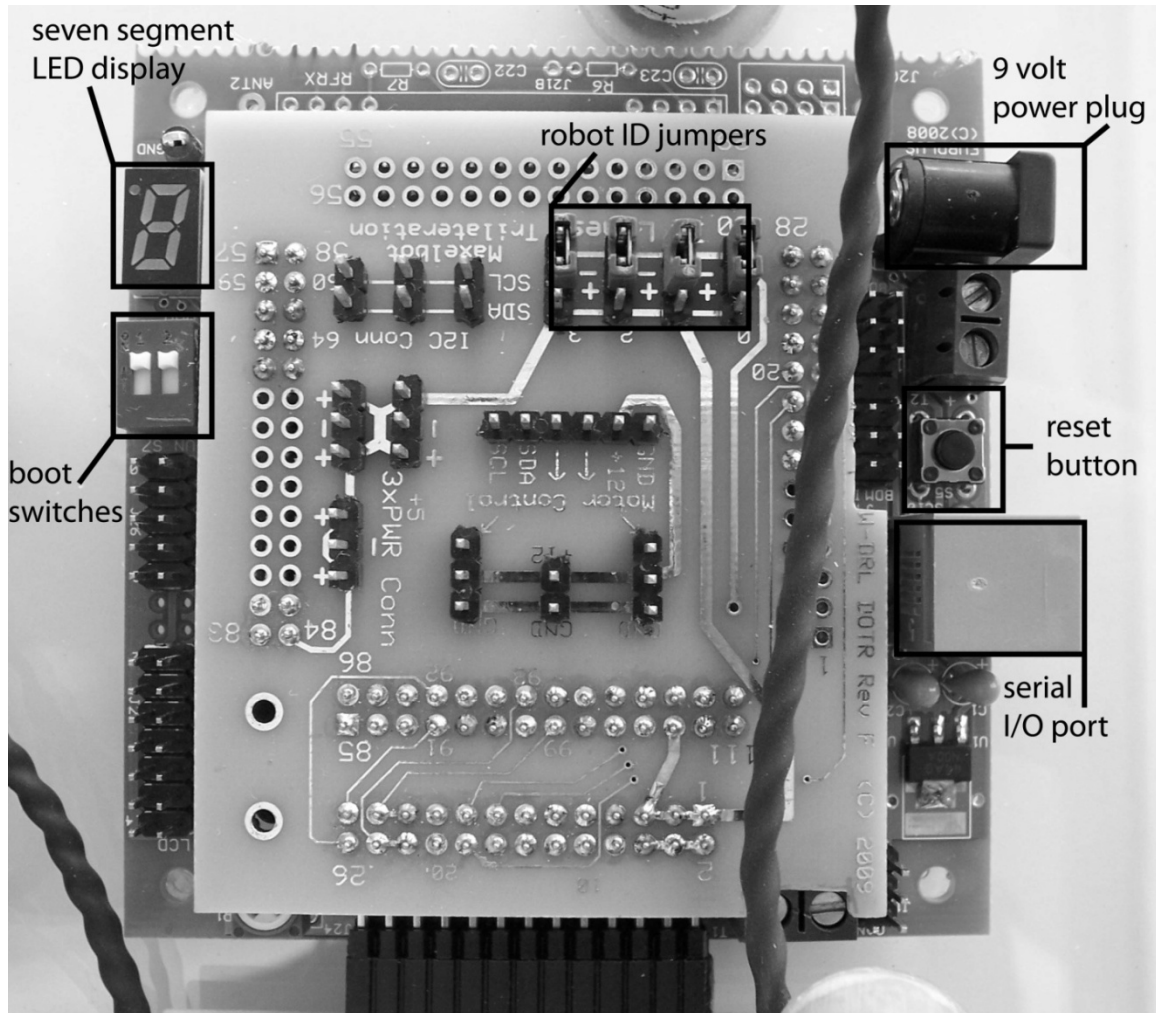
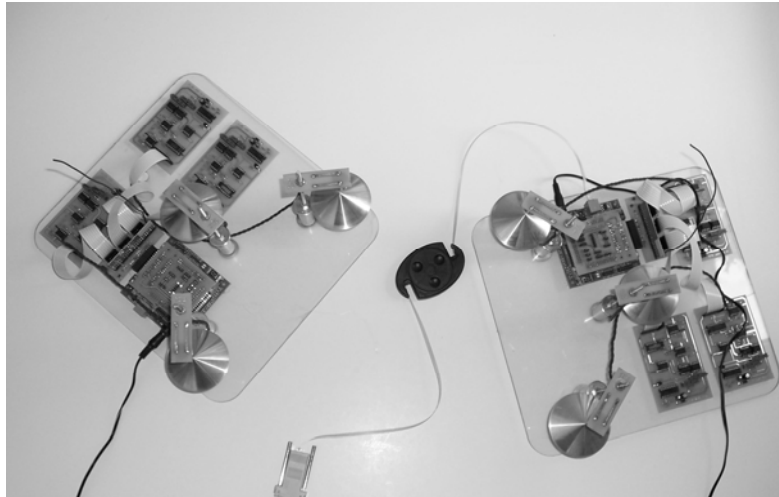

Figure 4. MiniDragon+ and DOTR (Daughter) Board Connection and Configuration Reference
Figure 5. A Transmitting (left) and Receiving (right) Trilat Module Pair in Action.
The computational heart of the trilat module is a Freescale (Motorola) HCS12 16-bit microcontroller, located on a MiniDragon+ Trainer evaluation board. The MiniDragon+ provides a very stable platform for firmware design and evaluation. A custom printed circuit board (the DOTRBrd) is attached to the principal headers of the MiniDragon+ to provide signal routing for the trilat module functionality. The annotated photo in Figure 4 outlines the critical points of connection and configuration.
The trilat module is designed for distributed use across a collection or swarm of small robots. To uniquely identify each robot, four jumpers are provided on the DOTRBrd to allow for configuration of a unique 4-bit binary address for each robot in your swarm. As shown in Figure 4, the robot ID would be 0000 (the jumpers are positioned on the upper or “minus” side, thus a 0), with the least significant bit located on the right side in the photo.
The “boot switches” indicated in Figure 4 provide a Wytec and D-Bug12 customized method for accessing each of these three memory configurations. As you develop code for trilat, you’ll use them frequently to reconfigure.
- Ensure that the two boot switches are both positioned toward the seven segment display, as shown in Figure 4.
baud). Press the MiniDragon+ reset button, see Figure 4, at any point to restart any “robot.” Figures 5 and 6 demonstrate this configuration with one transmitting module and one receiving module.